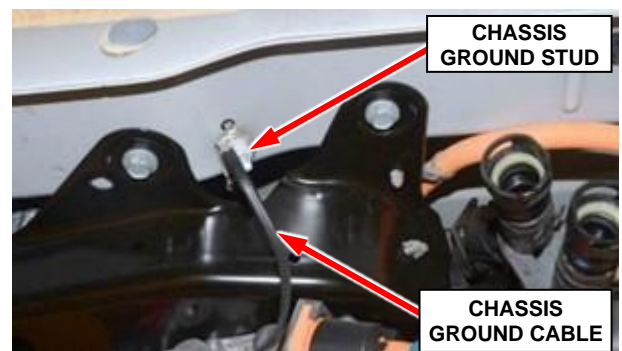

Figure 41 – Chassis Ground Cable
- 60. Remove the chassis ground stud nut then remove the chassis ground cable from the vehicle body stud (Figure 41).